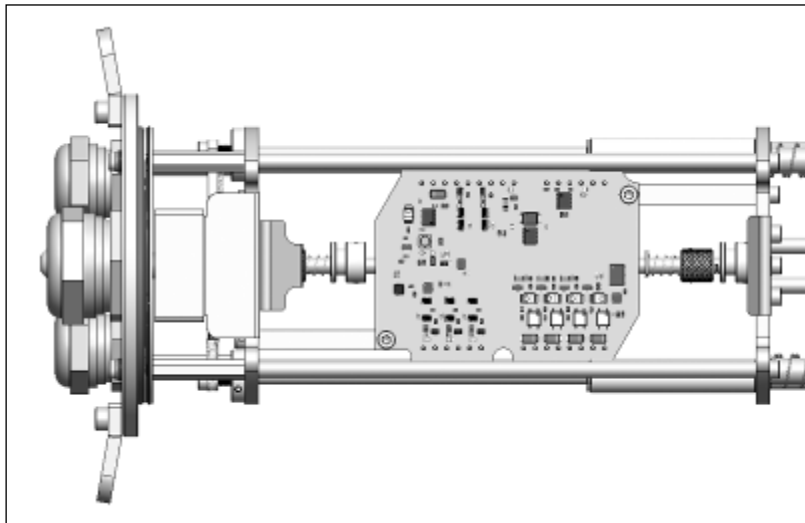

Figure 38: Mounting of the industrial PIF (top view)
5. Fix the industrial PIF with the screws (M3x5) as shown in **Figure 38**.